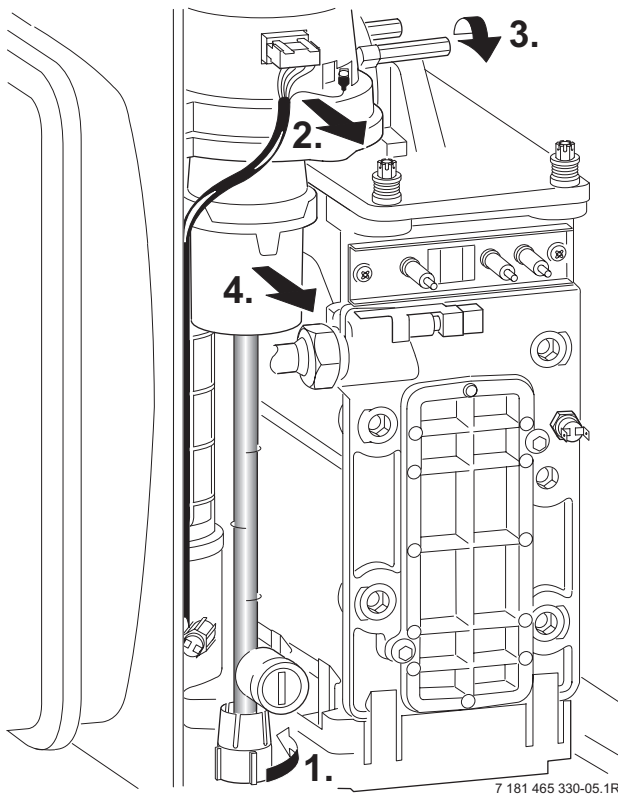

Fig. 57
- ▶ Undo lower pipe union on gas pipe (1.). Refer to fig. 57.
- ▶ Undo the union, within the inner casing, securing the valve to the gas/air tube. Refer to fig. 57.
- ▶ Undo the top connection of the pump. Refer to fig. 57.